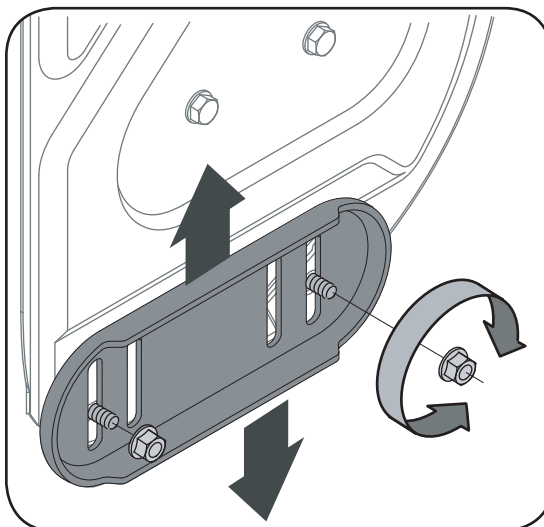

Figure 16
1. Adjust skid shoes by loosening the four lock nuts and carriage bolts and moving skid shoes to desired position. See Figure 16.